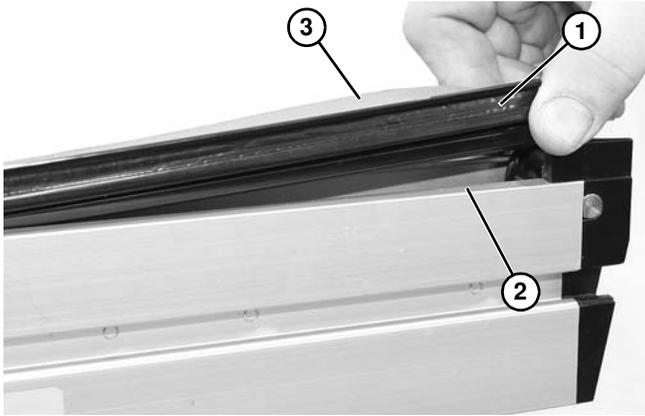

Figure 34
6. Remove the bedstrip (Figure 34, item 1) from between the conveyor (Figure 34, item 2) and belt (Figure 34, item 3).